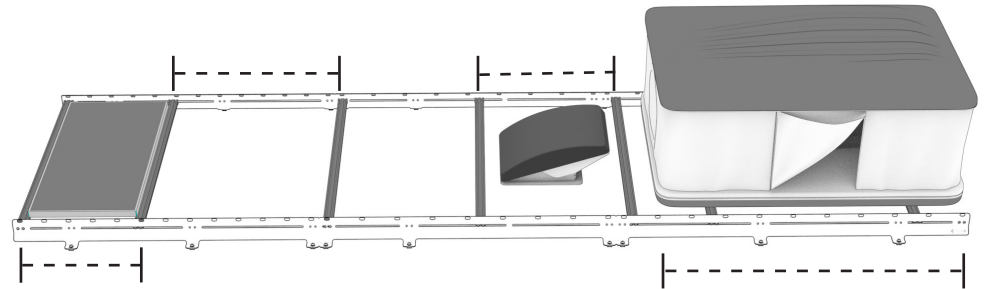

FIG 7
**3.1 Layout Crossbar Locations:** Position the crossbars in your desired locations, loosely threading in the **1/4-20" Flange Head Screws** to hold in place (**FIG 7**).